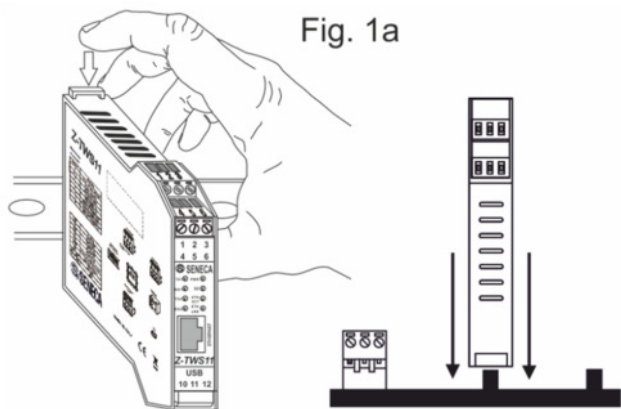

Fig. 1a
- 3) To secure the module to the IEC EN 60715 DIN rail, tighten the two hooks on the side of the IDC10 rear connector as shown in fig. 1a.